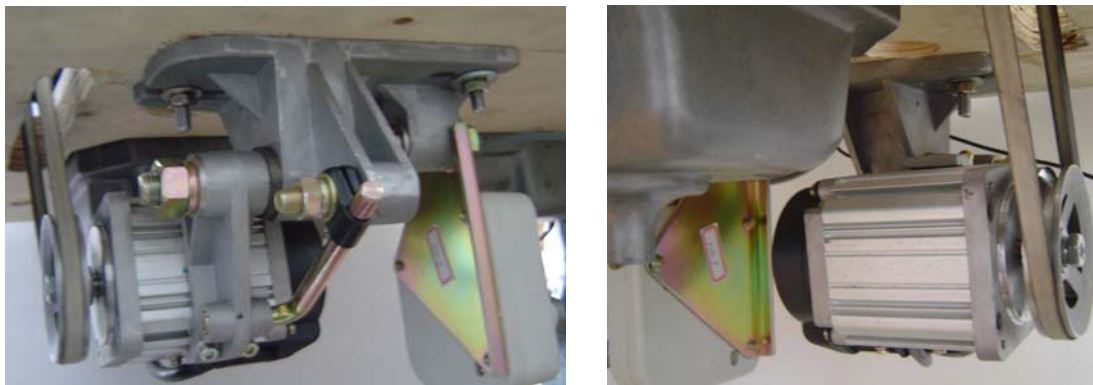

Fig. 3.1 Illustration drawing of motor under hitch for general interlock sewing machine applicable for ASU50 control system
- 9) .Controller fitting mode is side guided, so that the position for electric motor is flexible, as is shown in figures 3.1 –3.3